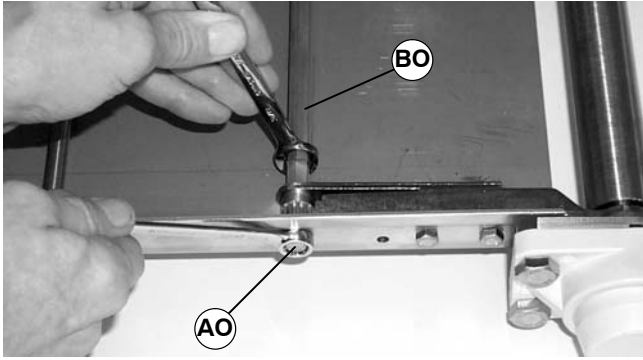
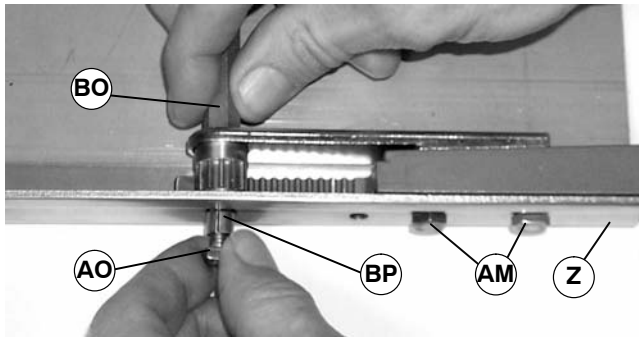
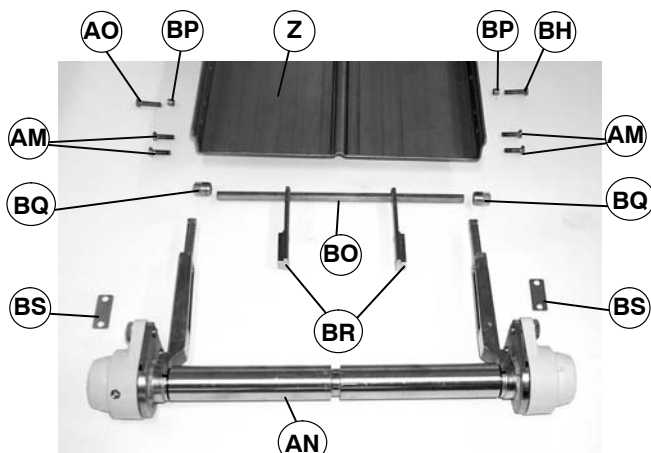

Figure 39
Figure 40
Figure 41
1. While holding hex pinion (BO of Figure 39) with a 3/8" open-end wrench, loosen M6 hex head cap screw (AO).
- Remove M6 hex head cap screw (AO of Figure 40) and sleeve (BP) from conveyor (Z) and hex pinion (BO).
- Repeat steps 1 and 2 for screw (BH of Figure 41) on opposite side of conveyor.
- Remove two M6 hex head cap screws (AM) from each side of conveyor.
- Remove two pinion ends (BQ), clamp blocks (BR), hex pinion (BO), two spacers (BS) and tail assembly (AN) from conveyor (Z).
IMPORTANT: Loosely install a spacer (BS of Figures 41 and 47) on each side of tail assembly (AN) prior to installing tail assembly on conveyor.
4. Loosely install two pinion ends (BQ of Figures 41 and 48), hex pinion (BO) and clamp blocks (BR) on tail assembly (AN) and conveyor (Z) with four M6x20mm hex head cap screws (AM of Figure 40), two sleeves (BP) and two M6x25mm hex head cap screws (AO).
5. While holding hex pinion (BO of Figure 39) with a 3/8" open-end wrench, tighten two screws (AO of Figure 39 and BH of Figure 41) to 33 in-lb (3.7 Nm).
6. Tighten four screws (AM of Figure 40) to 33 in-lb (3.7 Nm).